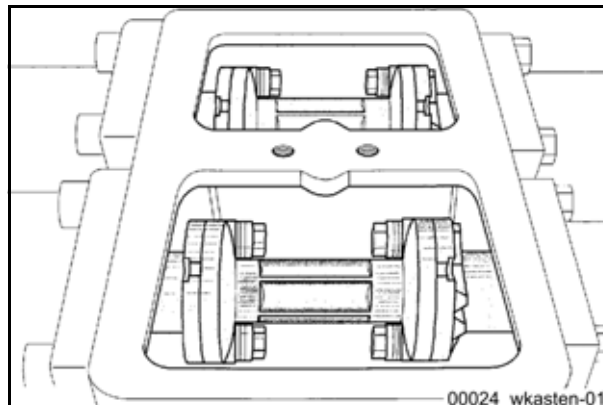

Fig. 329
- Move the piston to just in front of the rear end position. The distance piece (**Fig. 329**) must be fully visible in the water box.